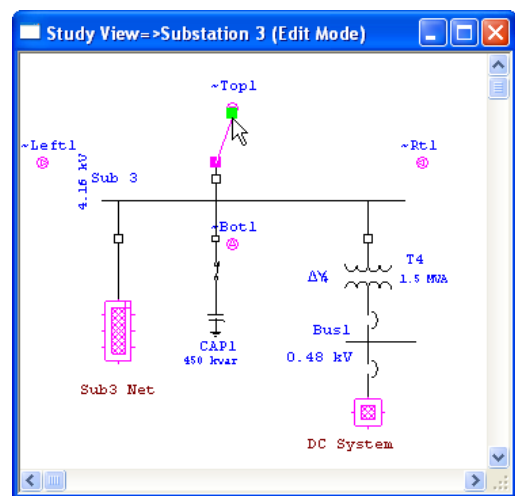

Fig. 10
- Let’s use the “~Top1” internal pin to connect the incomer CB of “Sub 3” bus. Point the mouse on the upper side of the CB and when the “Red” square handle appears, drag the mouse toward the “~Top1” symbol and release the mouse when the “Green” square handle appears on the “~Top1” symbol. See Fig. 10